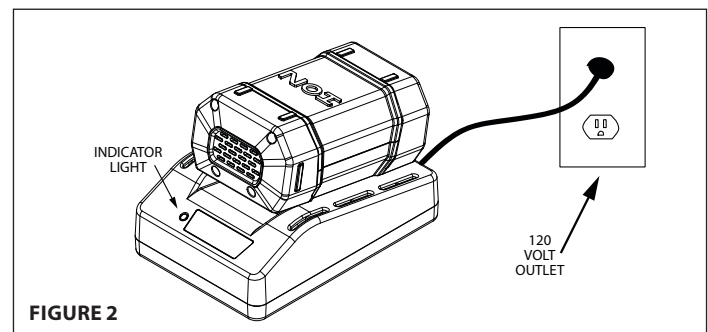

FIGURE 2
1. Connect the charger to a standard 120-volt outlet; a red light should appear on the charger. Always connect charger to standard 120-volt wall outlet before inserting battery. **SEE FIGURE 2**